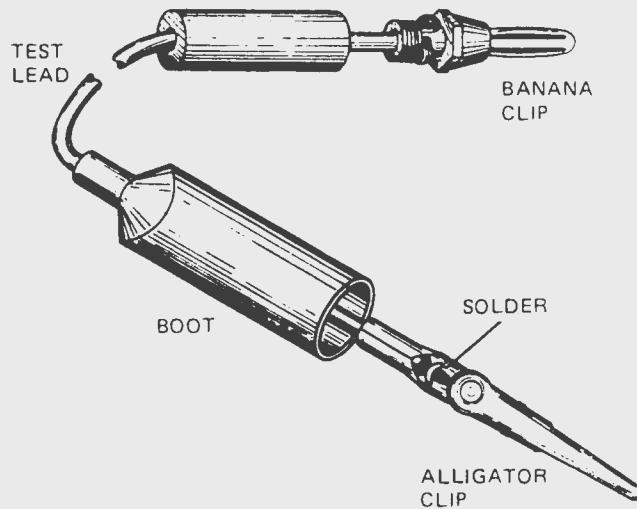

Fig. 15. Assembling the ground lead.
(1) Refer to Fig. 15 and assemble the ground lead as shown . . . . . ( )
(2) Locate the completed main circuit board and install it on the main chassis. The circuit board is installed by placing it over the connectors with a standoff insulator aligned with the four holes at the edges of the board. Press the board down over the standoffs until it stamps into position, making sure that the connectors meet properly with the receptacles on the circuit board . . . . . ( )
(3) Turn the shaft on the volume control fully counterclockwise. Now install a knob on the shaft to this control with the white dot pointed toward the MIN position on the volume control dial. Tighten the set screw in the knob to hold it in place . . . . . ( )
(4) In a similar manner, install the knob on the fine attenuator control after making sure that the shaft is turned completely counterclockwise and the switch is in the OFF position. Secure the knob with a white dot pointing toward the OFF position on the attenuator dial . . . . . ( )
(5) Using a pair of pliers, turn the shaft on the band switch fully counterclockwise. Install a knob on the shaft of this control by tightening the set screw up against the flat in the shaft. The white dot on the skirt of the knob should point toward the RF position on the dial. If the white dot on the skirt of the knob is not aligned with the RF position on the dial, remove the knob and loosen the nut holding the switch to the panel. Adjust the switch as necessary to bring the white nut into alignment with the RF position. When they are aligned, tighten the nut to secure the switch, then install the knob and tighten the set screw against the flat . . . . . ( )
(6) Mount the remaining knob on the shaft of the coarse attenuator control. If necessary, adjust the position of this control by loosening the nut securing it to the panel to bring the dot into alignment with the legend printed on the panel . . . . . ( )
(7) Locate the probe cable and plug one end of it into the input jack on the front of the signal tracer. Plug the other end of this cable into the back of the probe .....( )
(8) Locate the ground lead and connect the banana plug to the banana jack on the front of the instrument .....( )
(9) Preset the controls on the front of your signal tracer as follows: